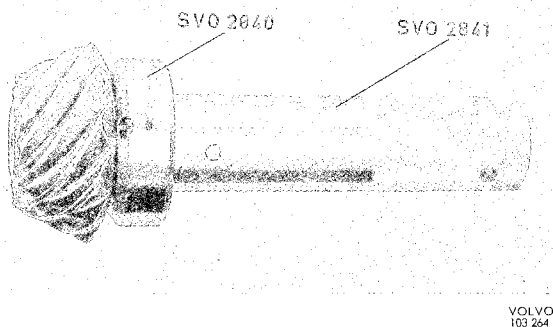
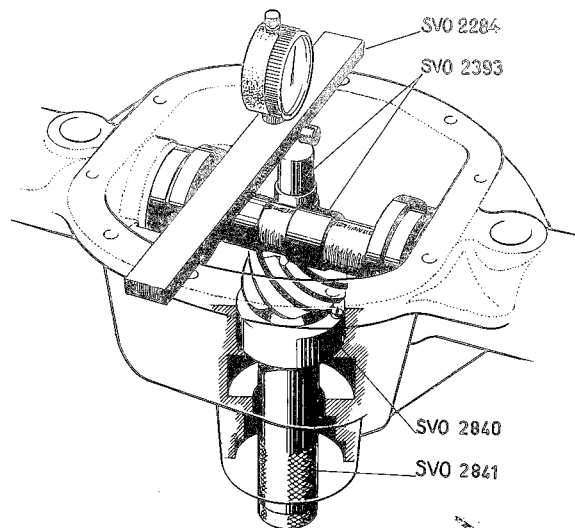
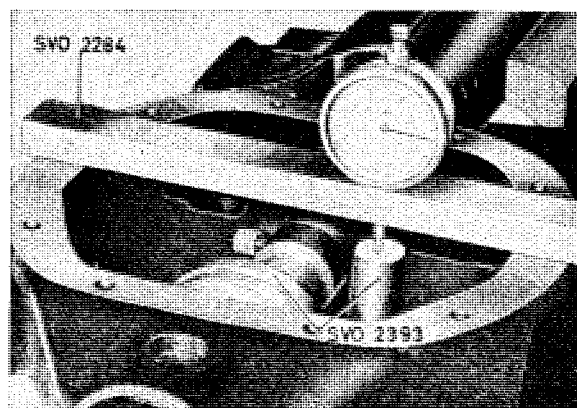
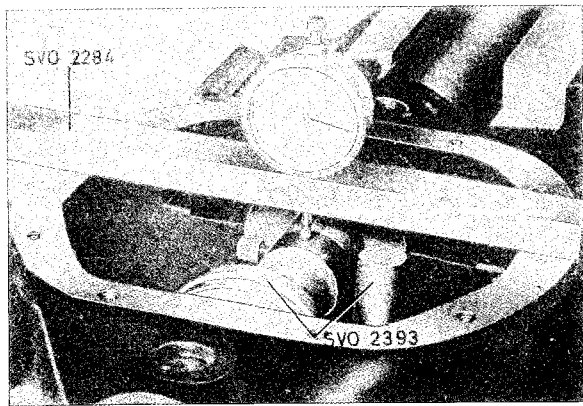

Fig. 4-149. Adjustment of ring and tool for pinion location
Fig. 4-151. Location of measuring tools
Fig. 4-152. Zero-setting indicator
Fig. 4-153. Measuring pinion location
1. Clean the marking surface on the pinion with extremely fine emery cloth. Fit the adjusting ring 2840 and tool 2841 on the pinion, see Fig. 4-149. Place the pinion in the carrier, see Fig. 4-151, and secure the adjusting ring by screwing out the lock screw.
Place the pinion gauge on the ground surface of the pinion and the adjusting jig in the differential bearing positions as shown in Fig. 4-151. Place the indicator retainer on the drive pinion carrier and zero-set the gauge against the adjusting ring, see Fig. 4-152. Then move the indicator retainer over so that the indicator comes against the pinion gauge, see Fig. 4-153. If the pinion is, for example, marked 33, the pinion gauge should lie 0.33 mm (0.013") under the adjuster fixture. The setting is adjusted by turning the cam on the pinion until the gauge dial shows the correct value. Then lock the adjusting ring with the lock screw. Remove the measuring tool and pinion.